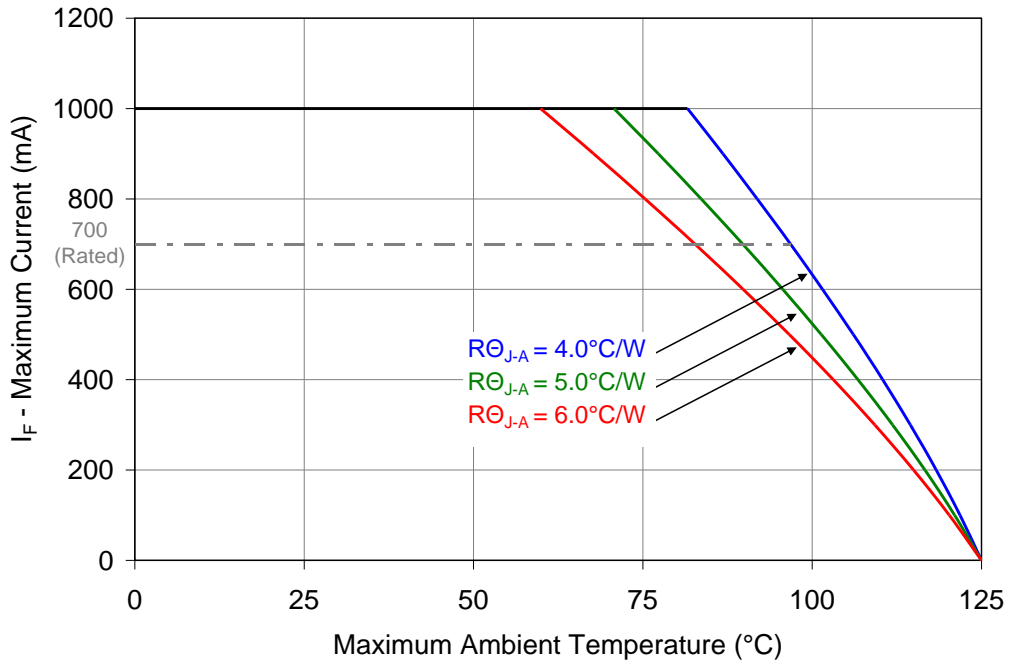

Figure 10: Maximum forward current vs. ambient temperature based on T_{J(MAX)} = 125°C
- Maximum DC forward current (per die) is determined by the overall thermal resistance and ambient temperature. Follow the curves in Figure 10 for current derating.
Notes for Figure 10: